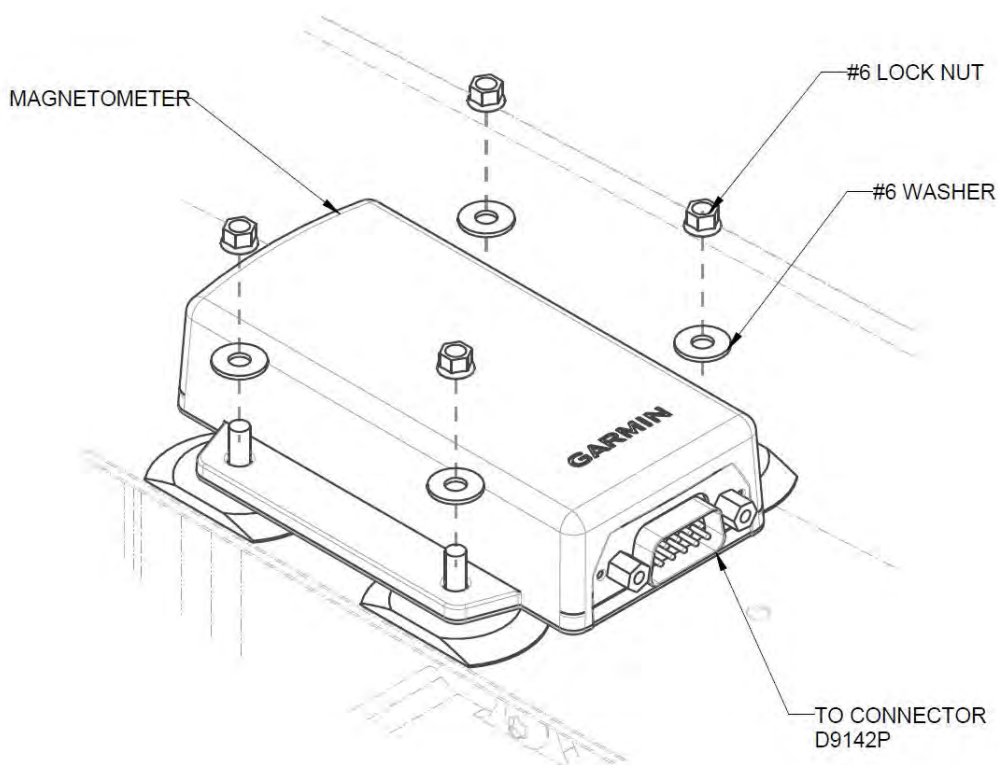

FIGURE 14-42
2. Place Magnetometer onto the studs as shown in Figure 14-42.